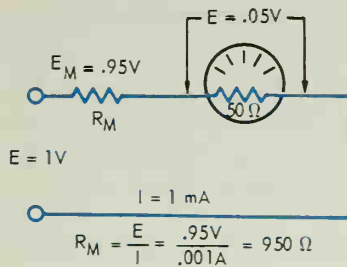

Fig. 7-4. Computation of a multiplier resistor to permit the use of the 0-1 volt range of the voltmeter.
2. In order to measure up to one volt, a resistor must be placed in series with the meter movement to drop a voltage of 1 volt by .05 volt to .95 volt. At a current of one milliampere, compute the value of the resistor by using Ohm's Law and check it against the circuit in Fig. 7-4.
The circuit will appear as in Fig. 7-4. This resistor is called a MULTIPLIER RESISTOR,